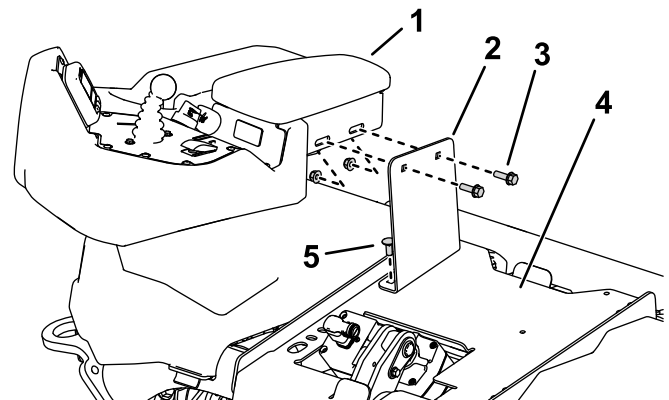

Figure 1
- If you are installing this kit on a new, diesel or eTriFlex traction unit without a seat, remove the 2 carriage bolts, 2 flange bolts, and 4 nuts securing the shipping bracket to the seat pan and armrest (Figure 1). Discard the shipping bracket and seat pan fasteners. Save the armrest fasteners.